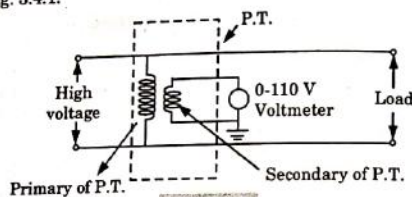

Fig. 3.4.1.
5. The primary is connected across the high voltages line while secondary is connected to the low range voltmeter coil. One end of the secondary is always grounded for safety purpose. The connections are shown in the Fig. 3.4.1.